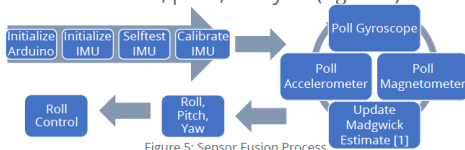

Figure 5: Sensor Fusion Process
- Accurate roll, pitch, and yaw (Figure 5)